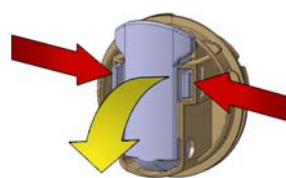

Fig. 3
- simultaneously extract the top part of the lever as shown by the yellow arrow in fig. 3,